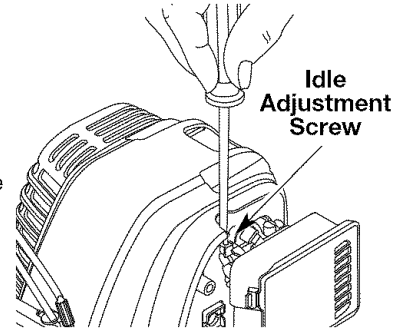

Fig. 29
The idle speed of the engine is adjustable. An idle adjustment screw is between the air filter cover and the engine starter housing (Fig. 29).
2. Move the throttle control lever to the Slow position (➔) and let the engine idle. If the engine stops, insert a small phillips in between the Air Filter Cover and the Engine Cover (Fig. 29).